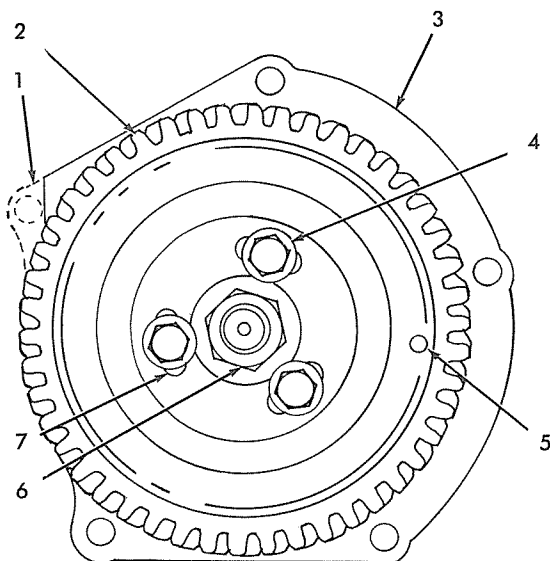

Fig. 9 Injection Pump Drive Gear
- c. The first type mounting cover has 5 holes for mounting the injection pump to the rear of the timing gear housing; the second type mounting cover has 4 holes. If the second type is used to replace the first type, it is necessary to install a countersunk hex head (nylon pellet type) set-screw (3/8" - 16 x 1/2") in the upper right hand tapped hole of the timing gear housing. This location is the place where the hole has been removed from the pump mounting cover, Fig. 9 and 10.
- c. The first type mounting cover has 5 holes for mounting the injection pump to the rear of the timing gear housing; the second type mounting cover has 4 holes. If the second type is used to replace the first type, it is necessary to install a countersunk hex head (nylon pellet type) set screw (3/8" - 16 x 1/2") in the upper right hand tapped hole of the timing gear housing. This location is the place where the hole has been removed from the pump mounting cover, Fig. 9 and 10.